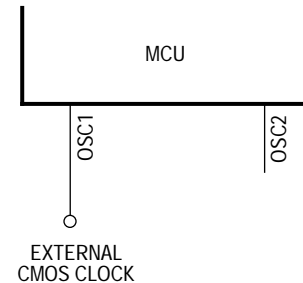

Figure 1-8. External Clock Connections
4. An external clock signal as shown in Figure 1-8
An external clock from another CMOS-compatible device can be connected to the OSC1 input, with the OSC2 input not connected, as shown in Figure 1-8. This configuration is possible regardless of whether the crystal/ceramic resonator or the RC oscillator is enabled.